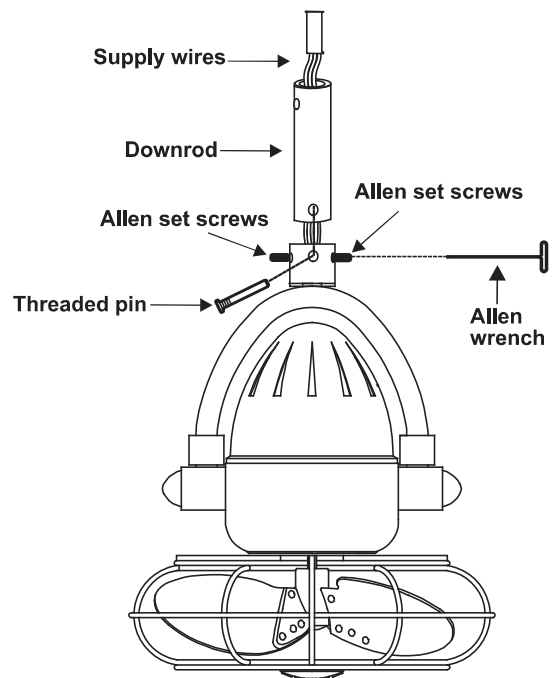

Figure 8
6. Loosen the two set screws and remove the threaded pin from the top coupling of the motor assembly. (Fig. 8)
7. Carefully feed the fan wires up through the down rod. Insert the down rod into the coupling then tighten the threaded pin and two allen set screws. (Fig. 8) Carefully reinstall hanger ball onto rod being sure that cross pin is in correct position, the set screw on hanger ball is tight and wires are not twisted.